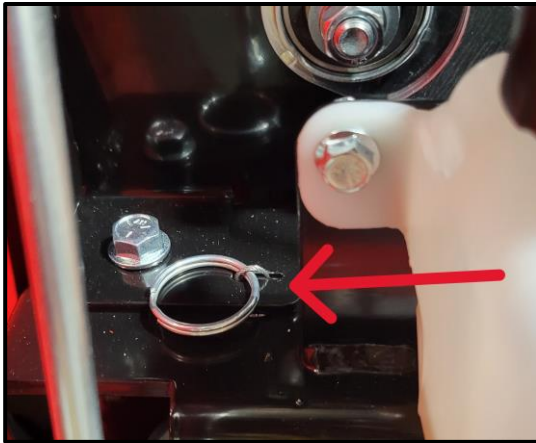

Figure 10 Transaxle Bypass Valve Disengaged
d. Close the bypass valve as shown [Figure 10].